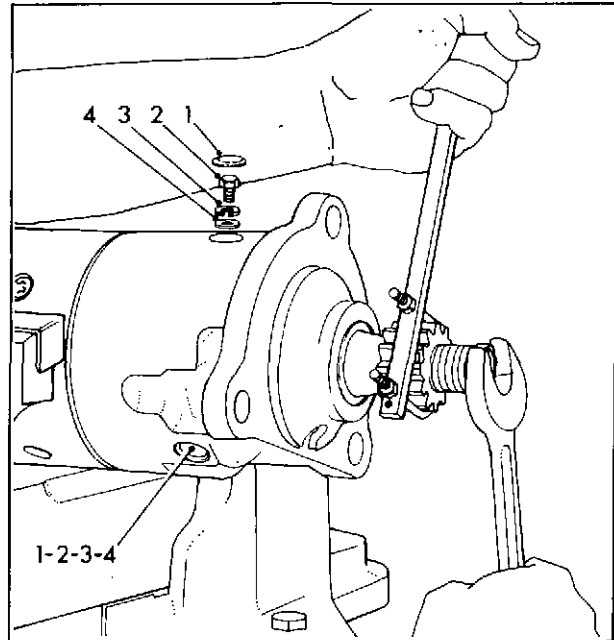
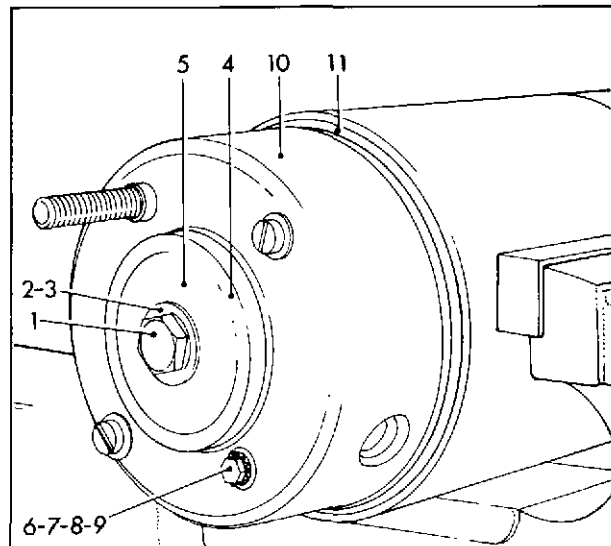

Fig. 1 Loosening pinion stop nut
Fig. 2 Removing commutator end shield
Commutator end shield (fig. 1 and fig. 2).
5. Hold the pinion as previously described and remove the commutator end bolt (1) fig. 2 together with thrust washer (2) and shims (3). Note the number of shims fitted to the drive end shield and retain them for use when re-assembling.
6. Remove the oiler sealing ring (4) and felt washer (5).
7. Remove screw (6) together with washer (7) washer (8) and bush (9). Remove the commutator end shield (10) and retain shims for use when re-assembling.